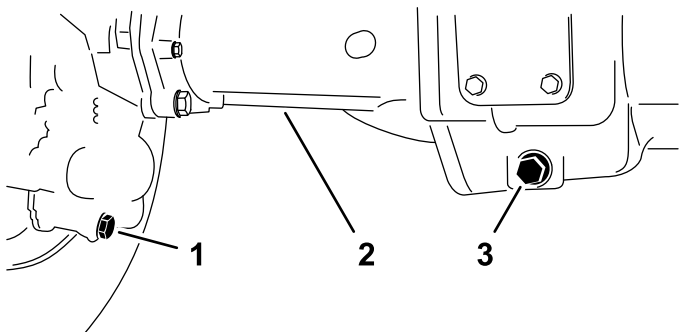

Figure 144
2. Clean the area around the 3 drain plugs (Figure 144)—1 at each bevel-gear case (outboard of the axle housings) and 1 in the center-gear case.
3. Remove each drain plug (Figure 144) and allow the oil to drain into a drain pan.